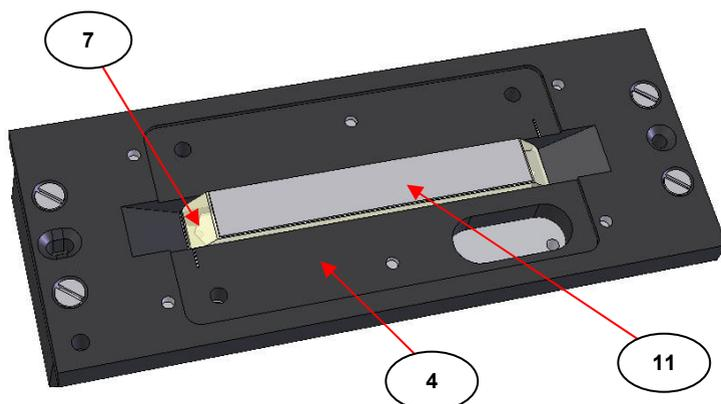

Fig 7. Lead Pad on Underside of ATR Crystal
- 2) Between the underside of the clamp plate (10) and the ATR crystal (7) there is a protective lead pad (11). Carefully remove the clamp plate (10) away to gain access to the lead pad (11). (See Fig 7.) The lead pad (11) may be stuck close to the underside of the crystal (7) and so it needs to be removed very carefully away from the crystal.
- 3) Place the lead pad (11) carefully and centrally on the underside face of the crystal (7), making sure that it does not obscure the input or output angled faces of the crystal. (See as for Fig 7.)